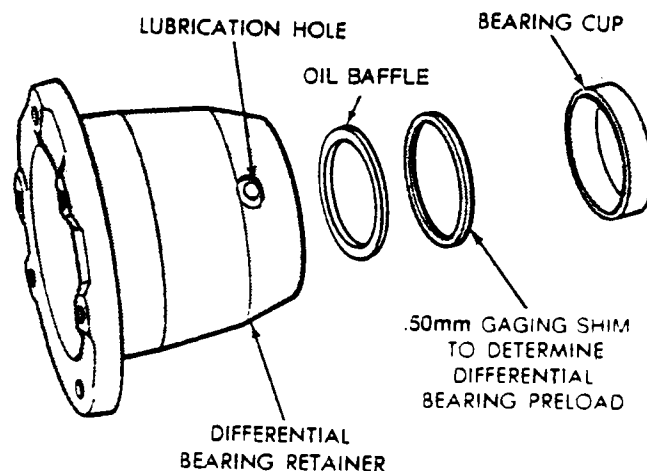

FIGURE 9
2. Install a .50 mm (.020 inch) gaging shim, Figure 9, and reinstall the bearing cup into the retainer. Use an arbor press to install the cup.